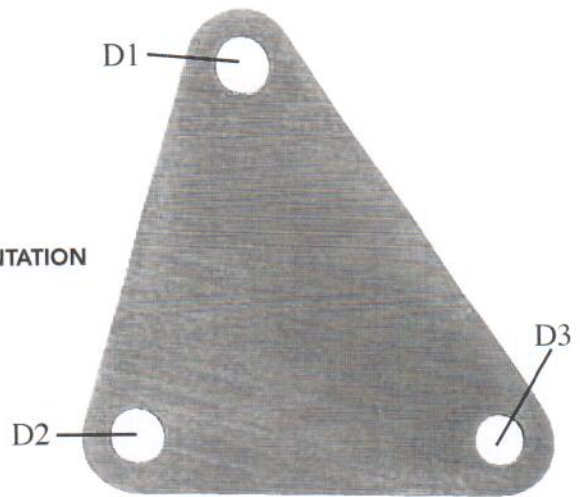

FIGURE D1
1. Bolt the supplied triangular alternator bracket to the port side cylinder head aligning the lowermost hole on the head's face with hole D2 (refer to figures D1, B2) with the 7/16" x 1.5" long bolt. The bracket should be oriented in such a manner that hole D1 aligns with the upper head bolt hole and the 3/8" hole (D3) sits in the lower of the two positions (as indicated in figure D5, also refer to figure A1 for additional detail).